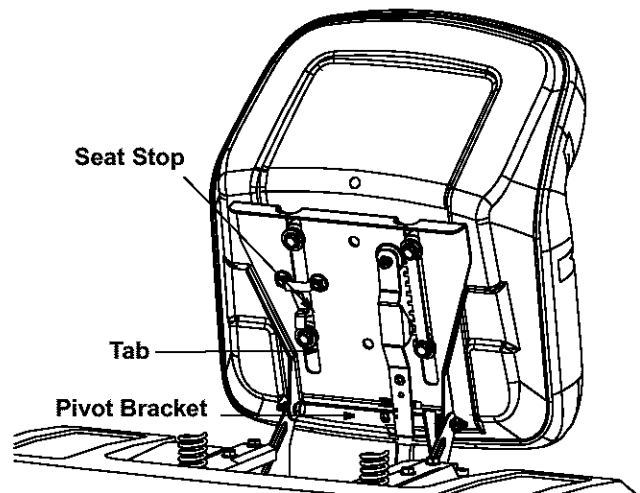

Figure 3
- Pull out the tab found on the seat stop and hold it open while sliding the seat off the seat pivot bracket. See Figure 3.
- Slide seat in until front seat spacer engages the seat stop. See Figure 3.